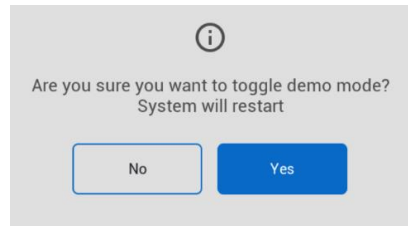

Figure 217 - Demo Mode
**Demo Mode** can be used as a training tool and/or for the display of the unit on a show room floor. When “Demo Mode” is enabled, all functions are simulated. This allows for simulated cooking, filter lockouts, and filtering procedure training **Figure 217**.